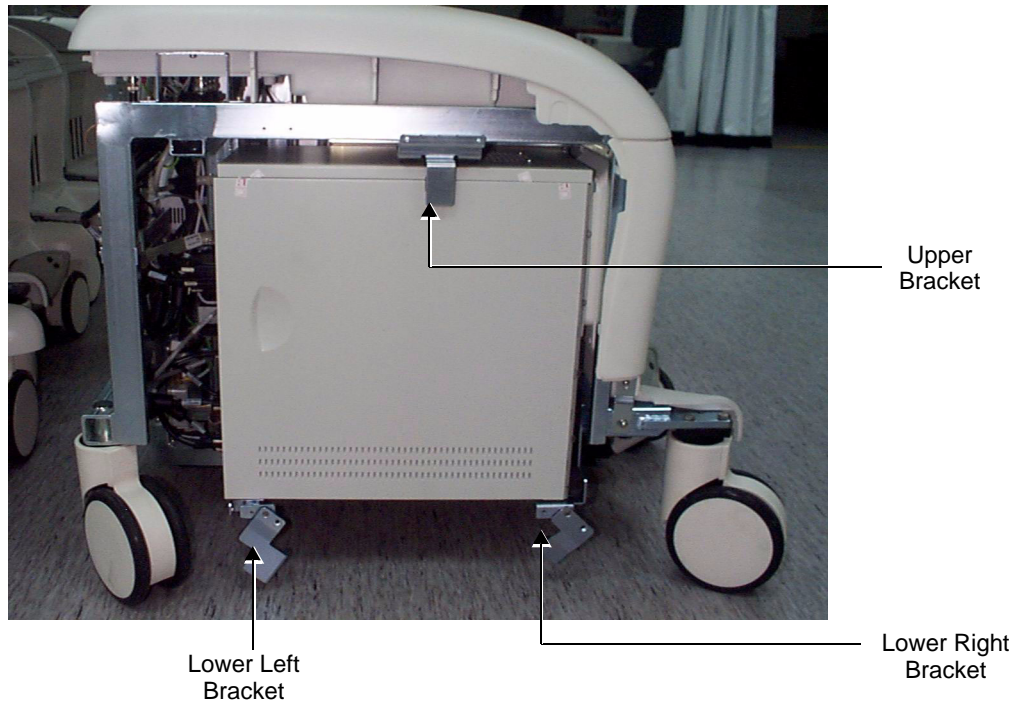

Figure 8-54 BEP - Position of Brackets on BEP2 Models
- a.) Remove the two screws of *upper* BEP bracket, see Figure 8-54 "BEP - Position of Brackets on BEP2 Models" on page 8-58.
- b.) Remove the screws of the *lower left* and *right* BEP brackets (Figure 8-54 "BEP - Position of Brackets on BEP2 Models" on page 8-58).